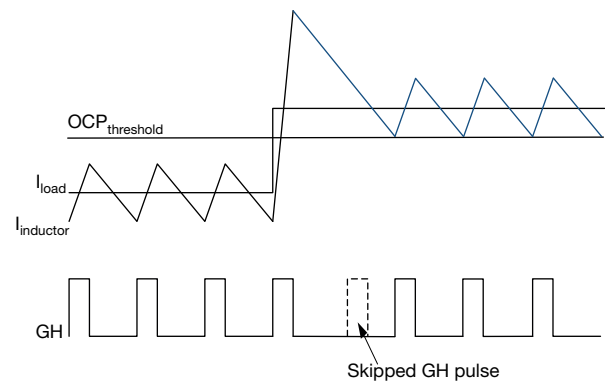

Fig. 7 - Over-Current Protection Illustration
SiC454 has pulse-by-pulse overcurrent (OC) limit control. The inductor valley current is monitored during low-side (LS) FET turn-on period through R_{DS(on)} sensing. After a pre-defined blanking time, the valley current is compared with an internal OCP threshold named IOUT_OC_FAULT_LIMIT, which can be programmed via PMBus. Once monitored valley current is larger than IOUT_OC_FAULT_LIMIT, a pulse-by-pulse over-current limit is broken, high-side (HS) turn-on pulse is skipped and LS FET is kept on until the inductor valley current returns below OCP limit as illustrated by Fig. 7.